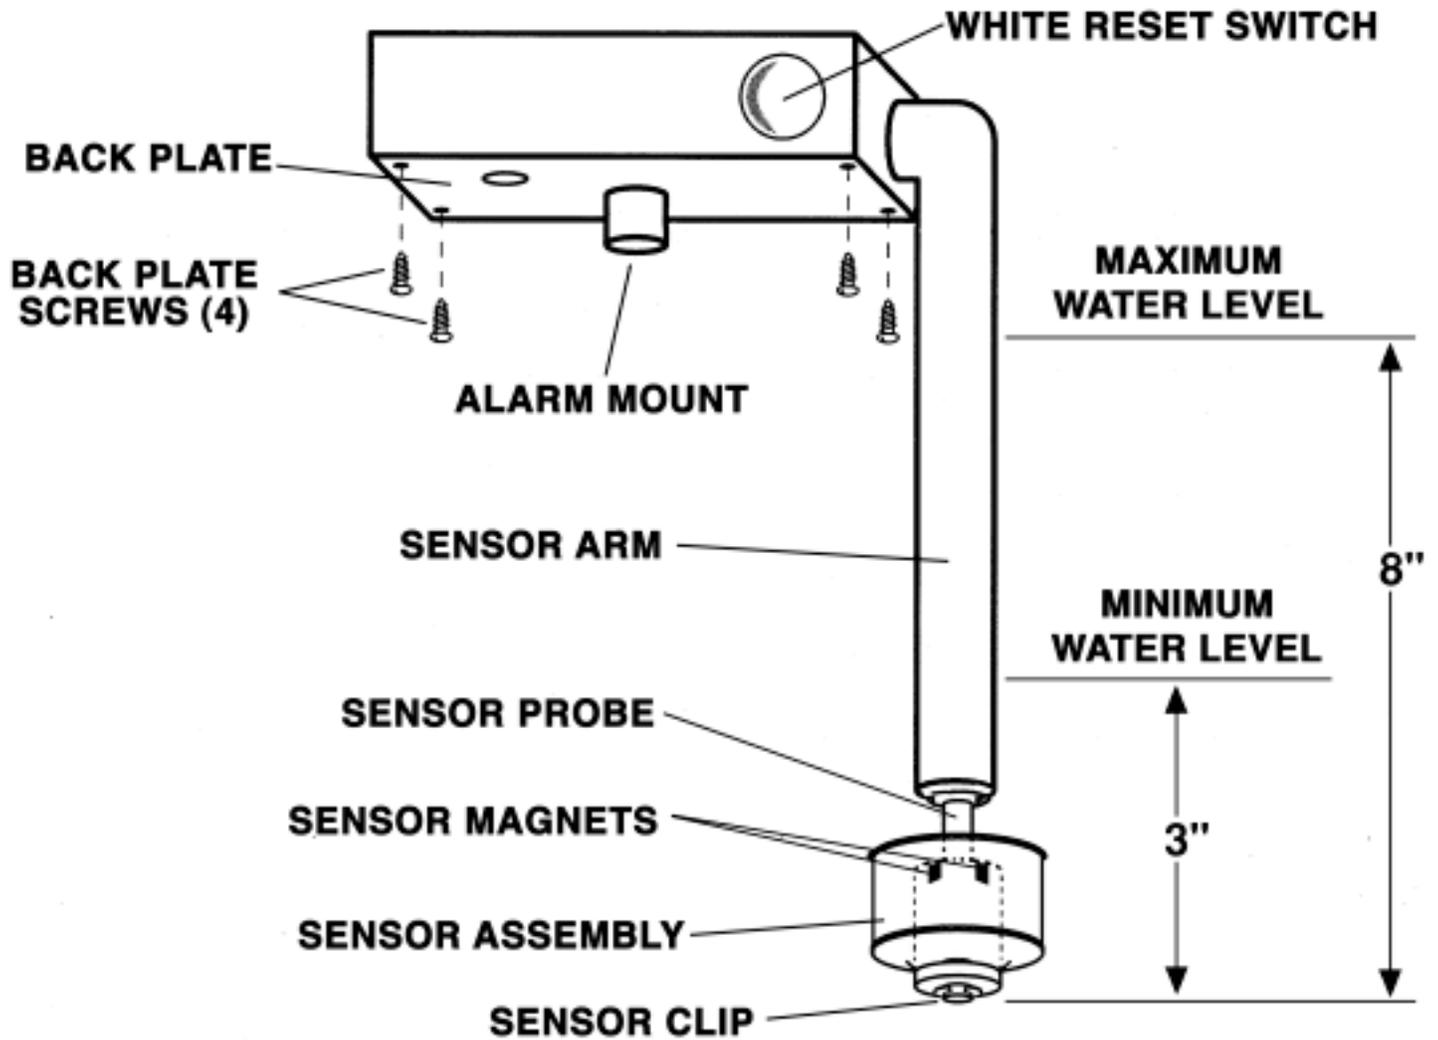

Figure 1
- Remove the four screws from the back of the alarm, refer to Figure 1.
- To prevent possible damage, battery should be removed whenever storing the alarm. Poolguard has a low battery feature. The POOL ALARM, (figure 1) will chirp about every 20 seconds to alert you that the battery is low and needs to be replaced.